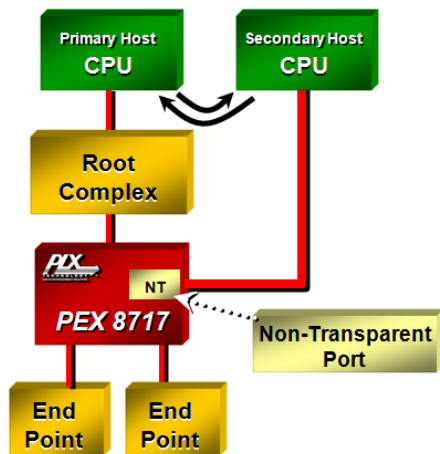

Figure 3. Non-Transparent Port
In Single-Host mode, the PEX 8717 supports 2 **Non-Transparent (NT) Ports**, which enables the implementation of **dual-host systems** for redundancy and host failover capability. The NT port allows systems to isolate host memory domains by presenting the processor subsystem as an endpoint rather than another memory system. Base address registers are used to translate addresses; doorbell registers are used to send interrupts between the address domains; and scratchpad registers (accessible by both CPUs) allow inter-processor communication (see Figure 3).